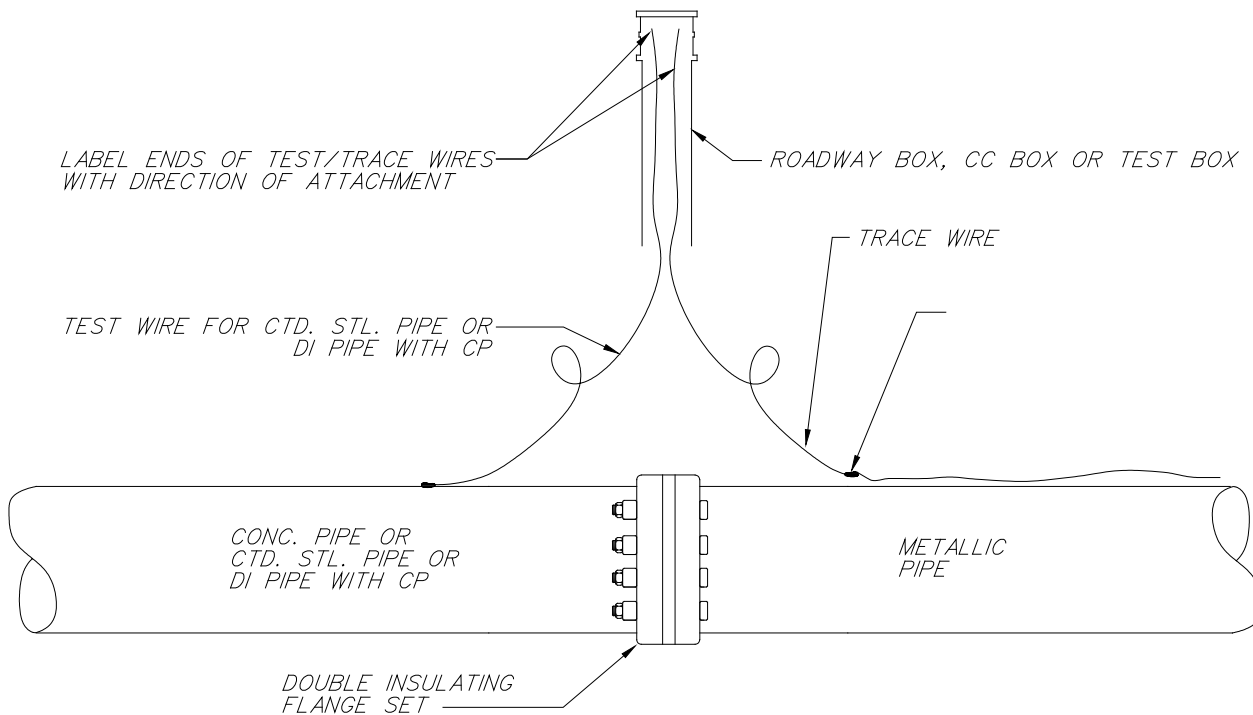

FIG 2
8. If steel pipe or ductile iron pipe with cathodic protection is involved, install anode per Anodes Required table in C.S. 8.2.1 and attach test wire to pipe per C.S. 8.3.2 (gas) or C.S. 8.3.3 (water). If ductile iron pipe is involved and trace wire is available with existing ductile iron pipe, attach trace wire to existing trace wire per C.S. 11.2.2 (gas) or C.S. 1.14.1 (water). Install either a roadway box, CC box or test marker. Bring wire(s) up alongside or inside roadway box, CC box or test marker per C.S. 8.3.1 and label wire(s). See Fig 2.